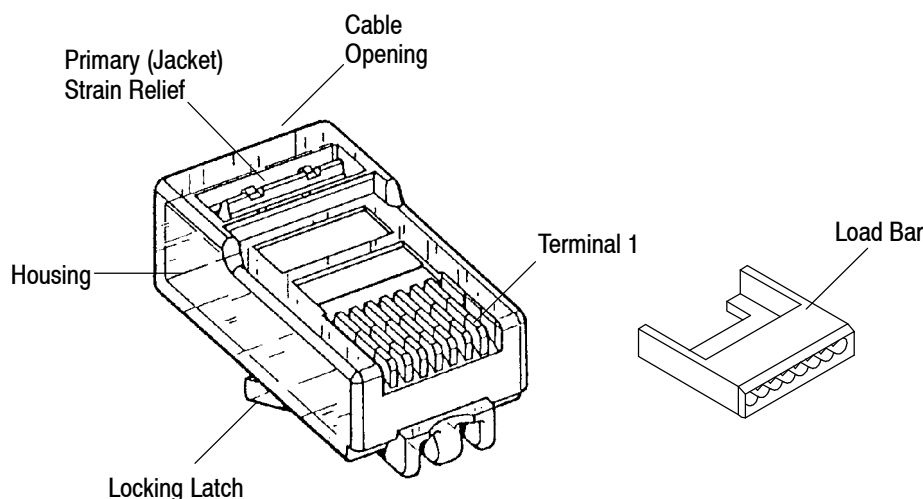

Figure 1
When corresponding with personnel, use the terminology provided in this specification to facilitate your inquiries for information. Basic terms and features of this product are provided in Figure 1.
- Added solid cable to Section 1 and load bar to Figure 1